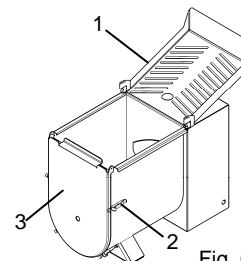

Fig. 6.3.2
- Open the closure buckle clips "2" Fig. 6.3.2
to release the front cover "3" Fig. 6.3.2